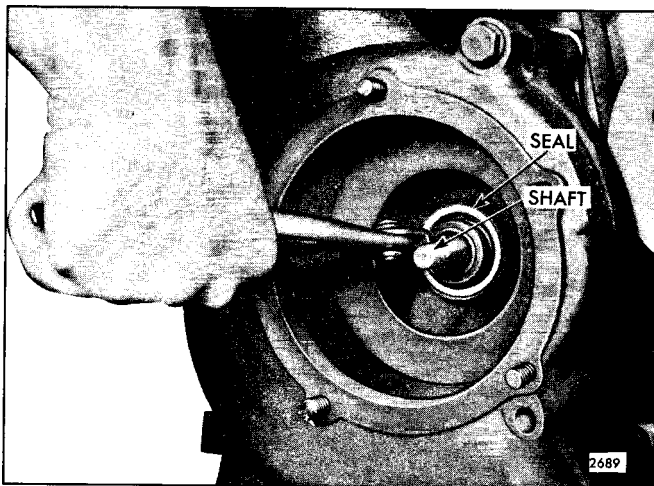

Fig. 2 - Removing Water Seal from Pump
3. Grasp the water seal assembly with suitable pliers and pull the seal out of the retainer (Fig. 2).
- c. Place the adhesive washers (2) in the impeller bond area with the ceramic insert on top. The polished face of the ceramic insert should be visible to the assembler.